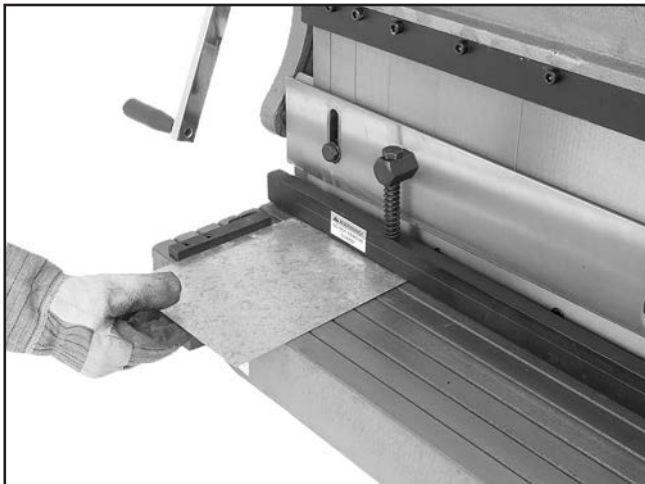

Figure 33. Workpiece positioning.
2. Place your workpiece to the far left of the shearing table and against the guide (**Figure 33**).